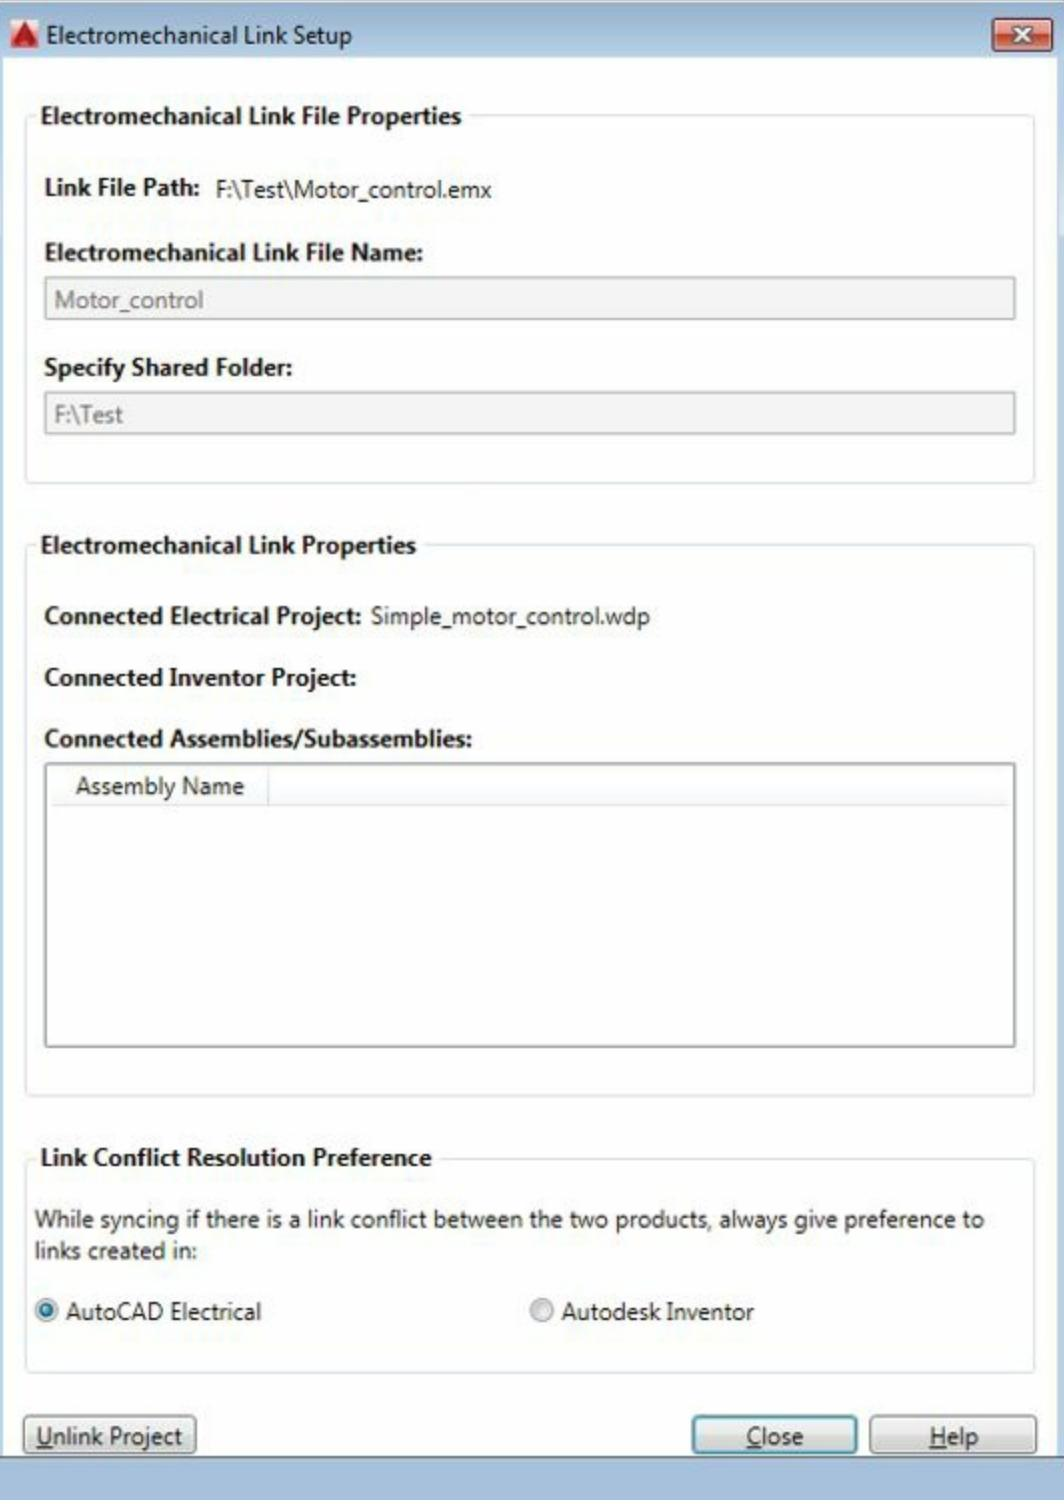

Figure-7. Electromechanical Link Setup dialog box with properties
- Click on the **Close** button from the dialog box. The **Electromechanical Link Setup** dialog box will be displayed; refer to Figure-7.